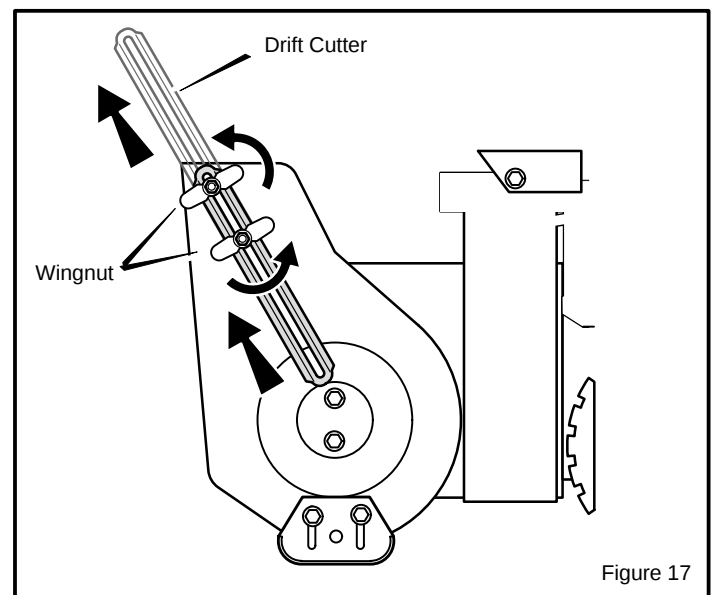

Figure 17
1. Loosen the **wingnuts** that secure the **drift cutters** to the auger housing (see Figure 17).